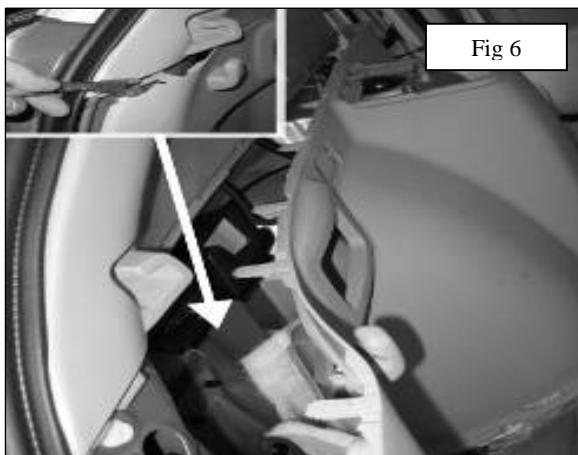

Fig 6
6. Working on the Driver's side of the vehicle, fold down the back seats and temporarily remove the plastic rear trim panel by removing 3 bolts using a 10mm wrench (Fig 5) Note: To access the bolt in the rear seat release handle (Red Arrow) you need to use a trim panel remover tool or a flat screwdriver to pry the cover plate off. After removing all three bolts, pry the panel clips that hold the panel in place, disconnecting any wiring before removing panel. (Figs 6 & 7).